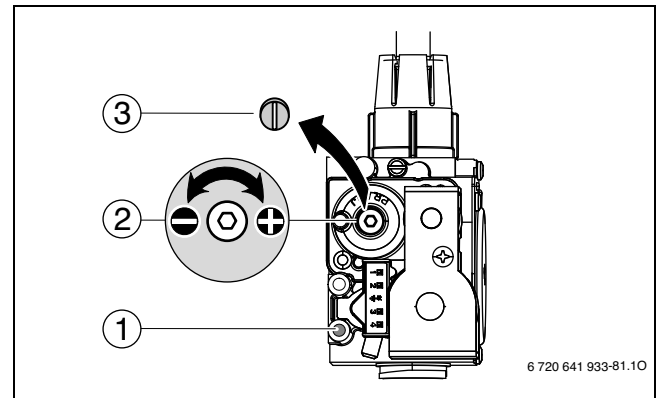

Fig. 63 Setting the CO₂ or O₂ values for minimum nominal output
- ▶ Remove screw (→ Fig. 63, [3]) from the gas valve adjustment screw (→ Fig. 63, [2]) and set CO₂ or O₂ value for minimum nominal output.
- ▶ Reinstall screw (→ Fig. 63, [3]) to cover the adjustment screw (→ Fig. 63, [2]) on the gas valve again.